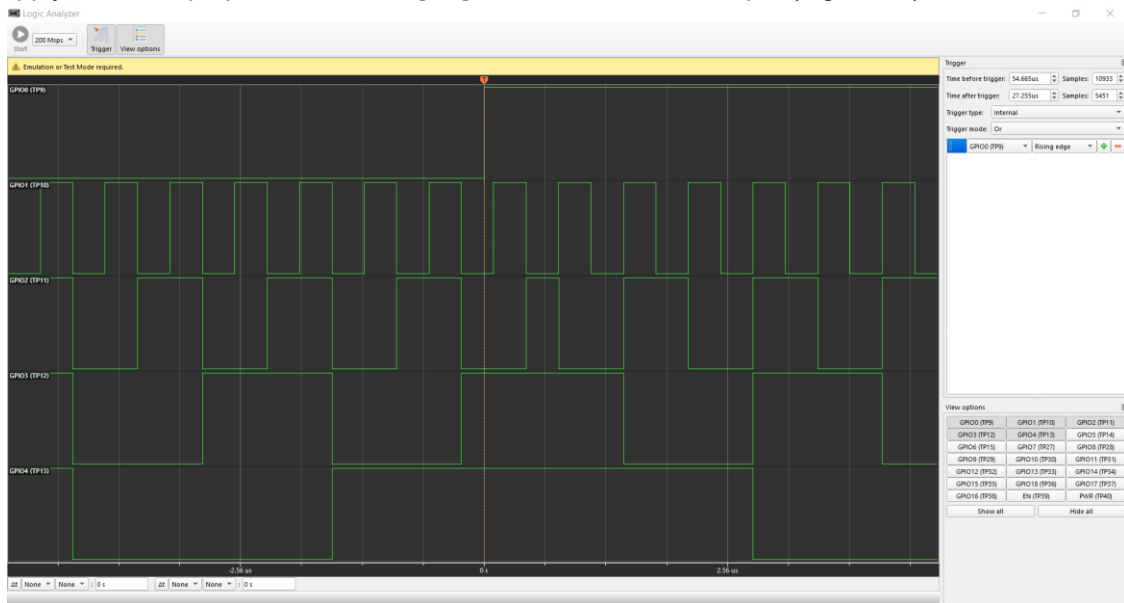

Figure 17: Waveforms of 4-bit counter after Emulation
- Now the counter is loaded onto the FPGA device. GPIO [4:1] will have the outputs of the counter on them. Apply oscilloscope probes to GPIO [4:1] to view the counter output (Figure 17).